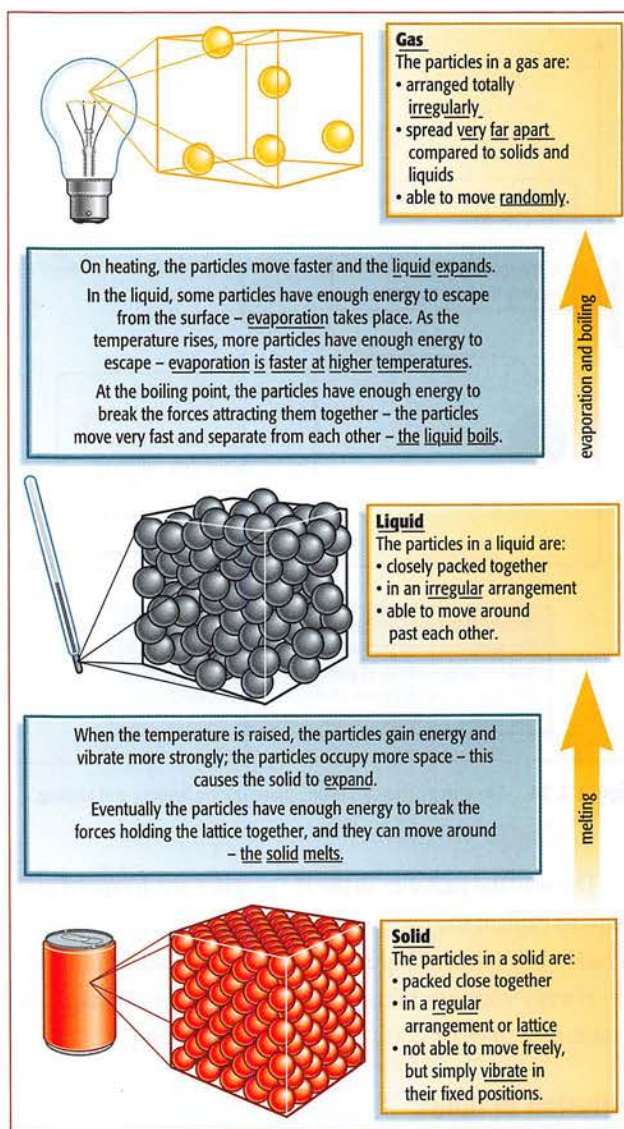

Figure 2.23 Applying the kinetic model to changes in physical state.
- ◆ The freedom of movement and the arrangement of the particles is different for the three states of matter (Figure 2.23).
Figure 2.23 is a summary of the organisation of the particles in the three states of matter, and helps to explain their different overall physical properties. The highly structured, ordered microscopic arrangements (**lattices**) in solids can produce the regular crystal structures seen in this state. The ability of the particles to move in the liquid and gas phases